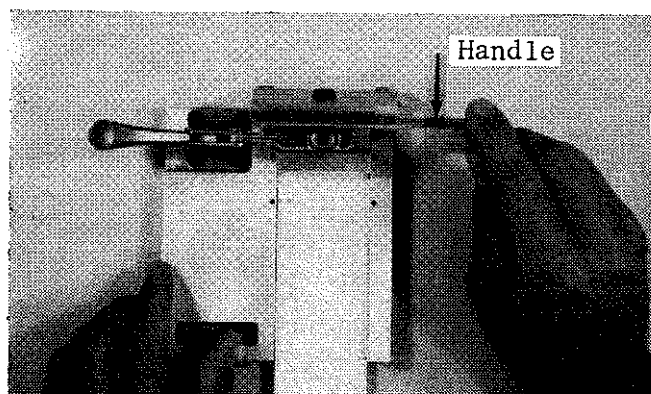

Figure 5-4. Hinged End of Tool Rotated Upward
5. Hold the handle away from the cable ("up"), and rotate the hinged end upward until it stops (Figure 5-4).